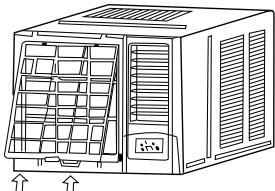

Fig. 2
- 2 Pinch the handle under the air filter, bend the filter gently and remove it from the slots (See Fig.2).
- 1 Install the air filter into the frame's slot from upside to underside (See Fig.2).